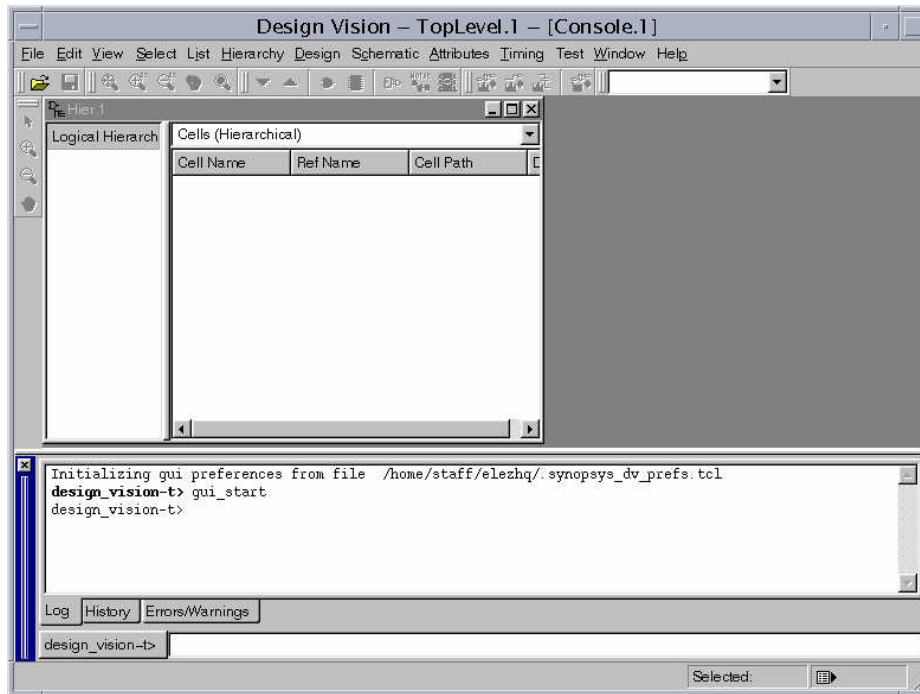

Figure 4-9 Design vision window.
1. Invoke DC by type **design_vision** in the project directory. The Design Vision window appears as shown in figure 4-9.